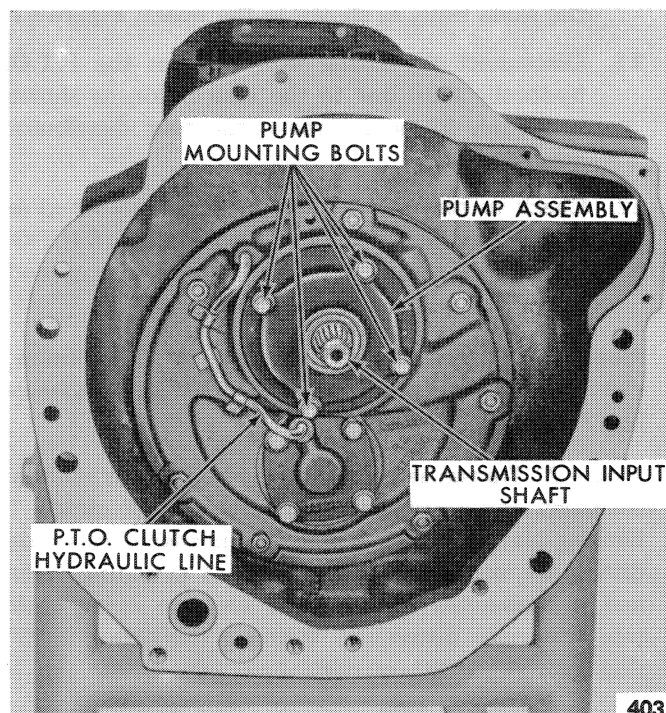

Figure 98—Removing the Pump Assembly
1. Remove the four pump attaching bolts and remove the pump, Figure 98, from the transmission input shaft.
3. On Models 71 and 81 transmissions, remove the P.T.O. clutch hydraulic fluid line, shown in Figure 98.